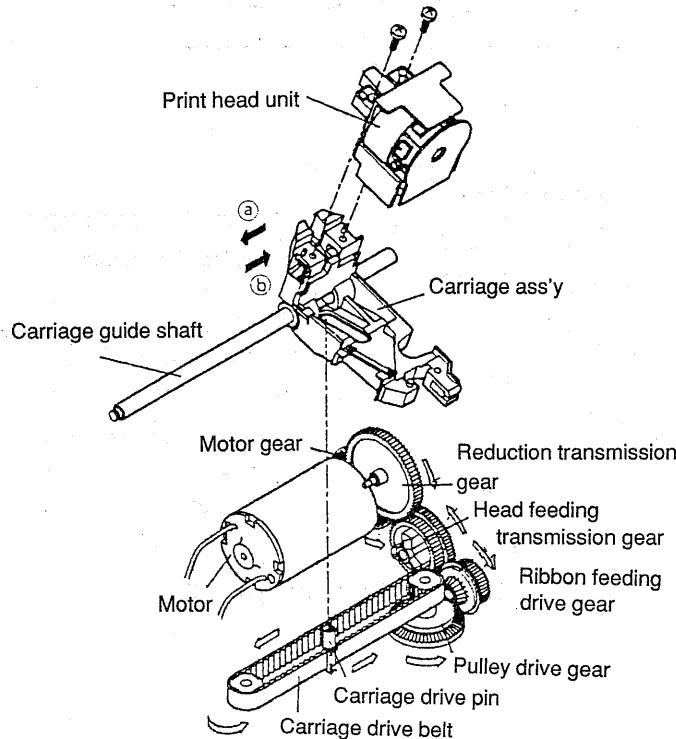

Figure 1.12 Print mechanism
This mechanism is composed of a print head unit consisting of seven wires arrayed vertically (on the Model-820) carriage ass'y, shaft, carriage guide, carriage drive belt ass'y, belt drive pulley subset, belt tension adjustment plate ass'y and a platen. The printing method is the bi-directional printing method in which the print head unit moves either in direction \Rightarrow ④ or direction \Rightarrow ⑤ to carry out printing (see Figure 1.12).
When the motor operates and gear rotates, the belt drive pulley rotates via the gear ass'y, (reduction transmission gear, head feeding transmission gear, ribbon feeding drive gear, pulley drive gear). The carriage drive belt ass'y moves in the direction. (shown by the arrow \Rightarrow) The carriage drive pin secured to the carriage drive belt ass'y interlocks with the shaft on the carriage ass'y and the long hole at a right angle to the carriage guide. The carriage drive pin alternates between movement on a straight line and movement in an arc while the carriage ass'y and the print head unit repeat only back-and-forth motion on a straight line. In other words, the print head unit moves in the direction shown by arrows \Rightarrow ④ and \Rightarrow ⑤ (see Figure 1.12).